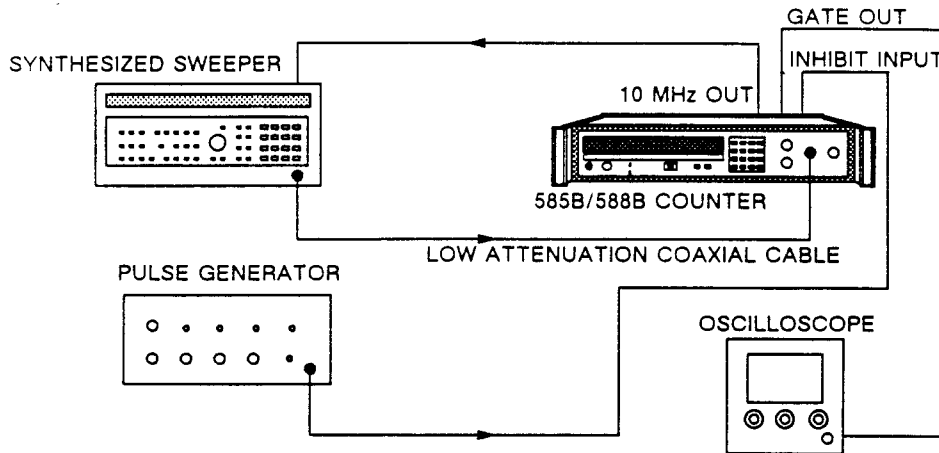

Figure 8-9. Band 2 Gate Error Test Setup.
1. Connect equipment as shown in Figure 8-9 and turn equipment on.